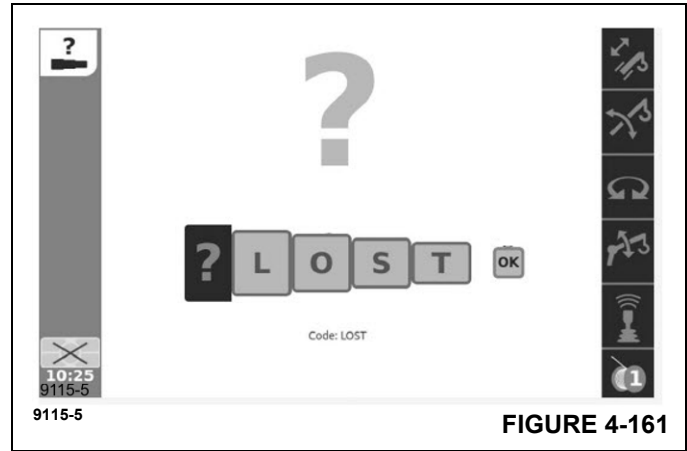
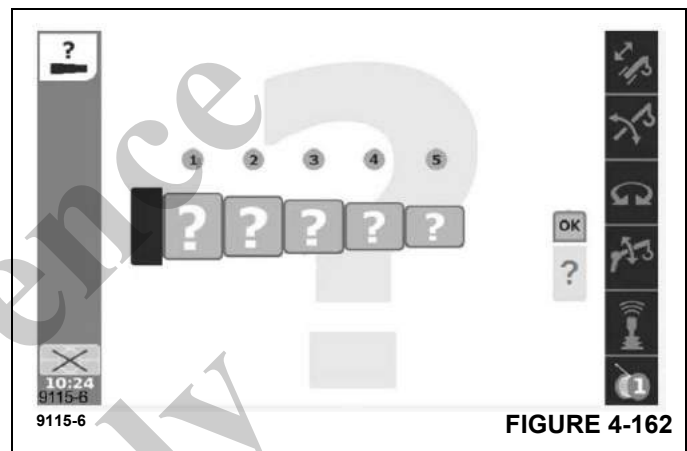

FIGURE 4-161
FIGURE 4-162
- The request reset telescoping screen appears as shown in (Figure 4-161). This screen is for entering a confirmation code. The confirmation code is L-O-S-T. When these letters are entered on the screen, then an Enter button can be used on the OK shown on the screen. If this is the correct code, then the reset telescoping screen appears as shown in (Figure 4-162).
- In the reset telescoping screen, as shown in (Figure 4-162), the operator can indicate the current boom configuration (“actual tele picture”). It is seen that there are 5 available boxes (for the 5 telescoping boom sections). Each of these spin boxes can be used to change to one of the following:
OK in the screen. If the control system confirms this boom configuration, then a check-mark appears below the OK. Otherwise, the question mark shown under the OK (as in Figure 4-162) will remain; in this case, the operator should exit the screen and repeat an attempt to enter the actual boom configuration.